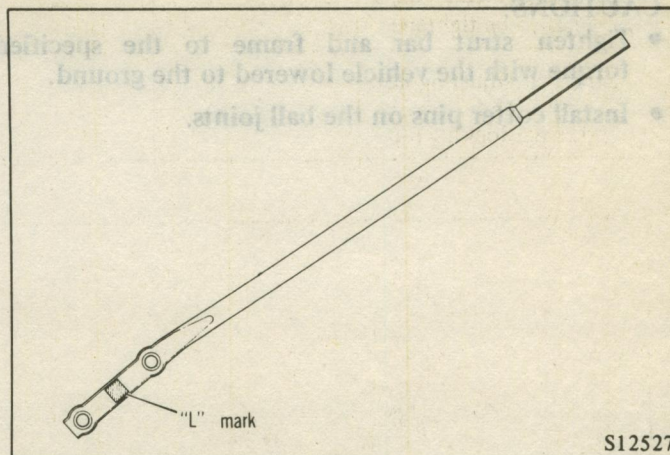

Fig. 33 Strut Bar Installing Direction
- (1) Note "L" on strut bar stands for LH side. (Fig. 33)